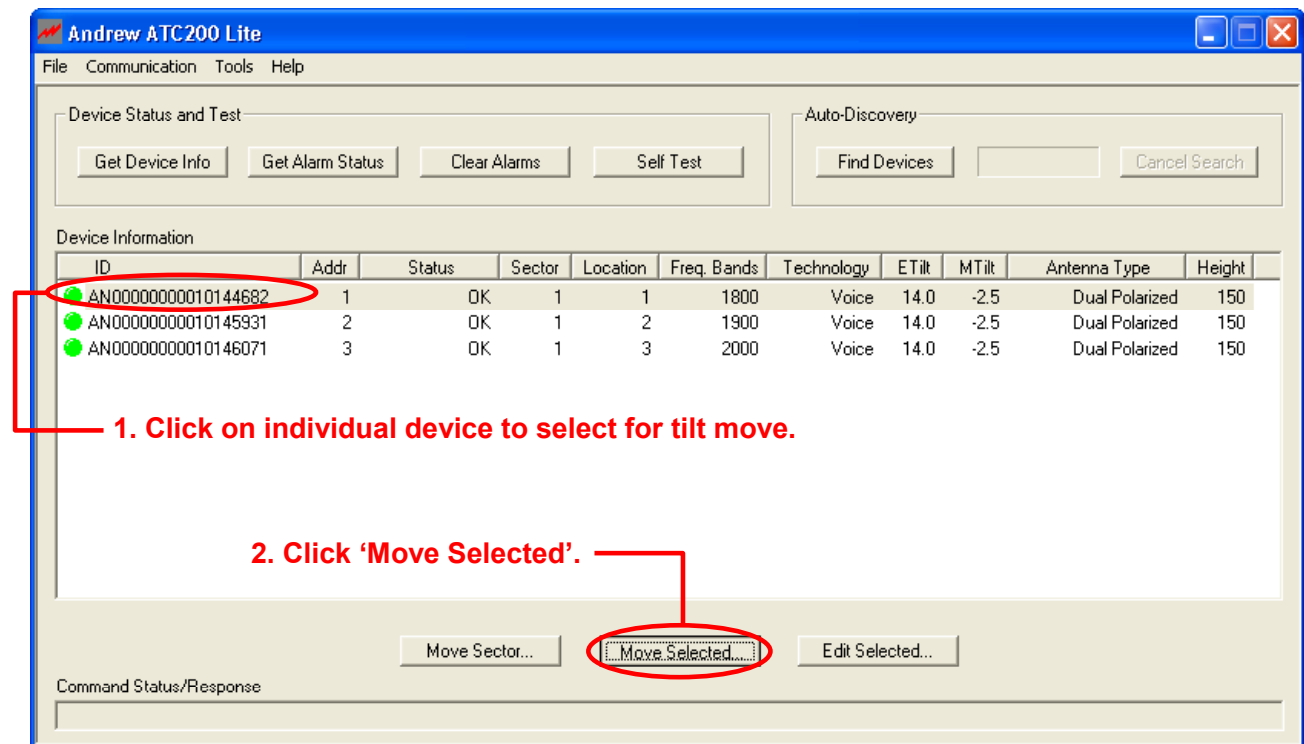

Figure 6-1. Selecting Device for Electrical Downtilt Adjustment.
1. From the 'Device Information' list, click on the device to be moved (Figure 6-1).
2. Click 'Move Selected' at the bottom of the screen (Figure 6-1).